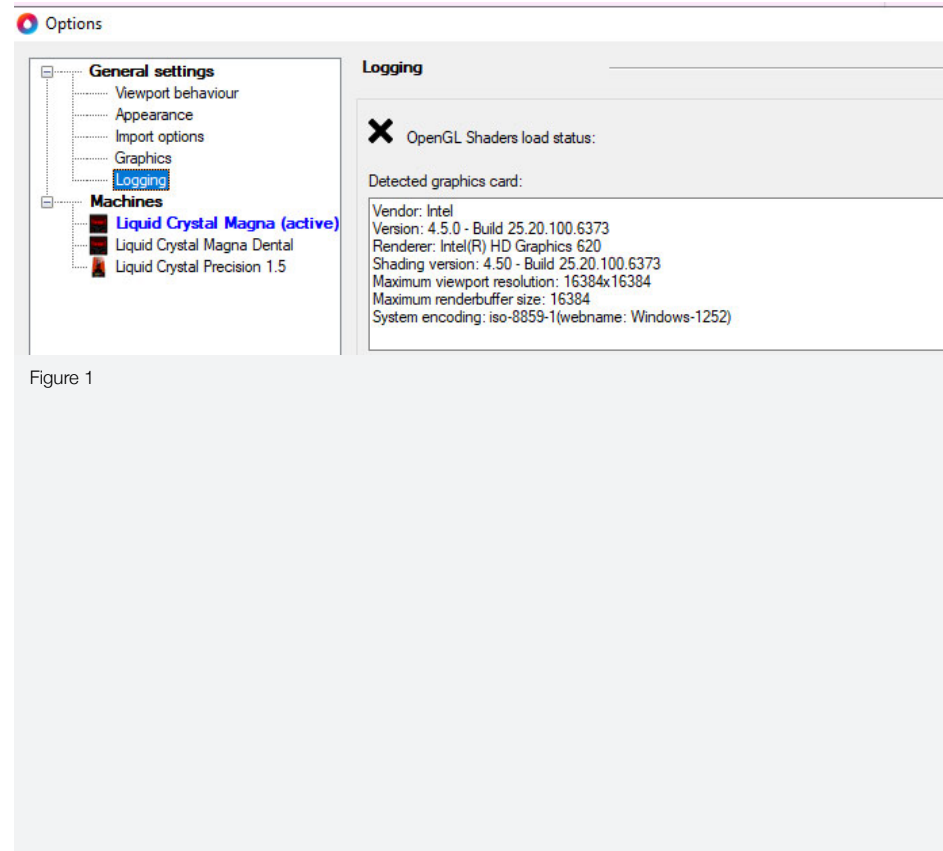

Figure 1
- Your system could operate with an intergrated or a non-intergrated graphics card. Photocentric Studio by default may run with the intergrated graphics card. To check this click 'File', 'Configuration', 'General Settings', 'Logging' (figure 1).